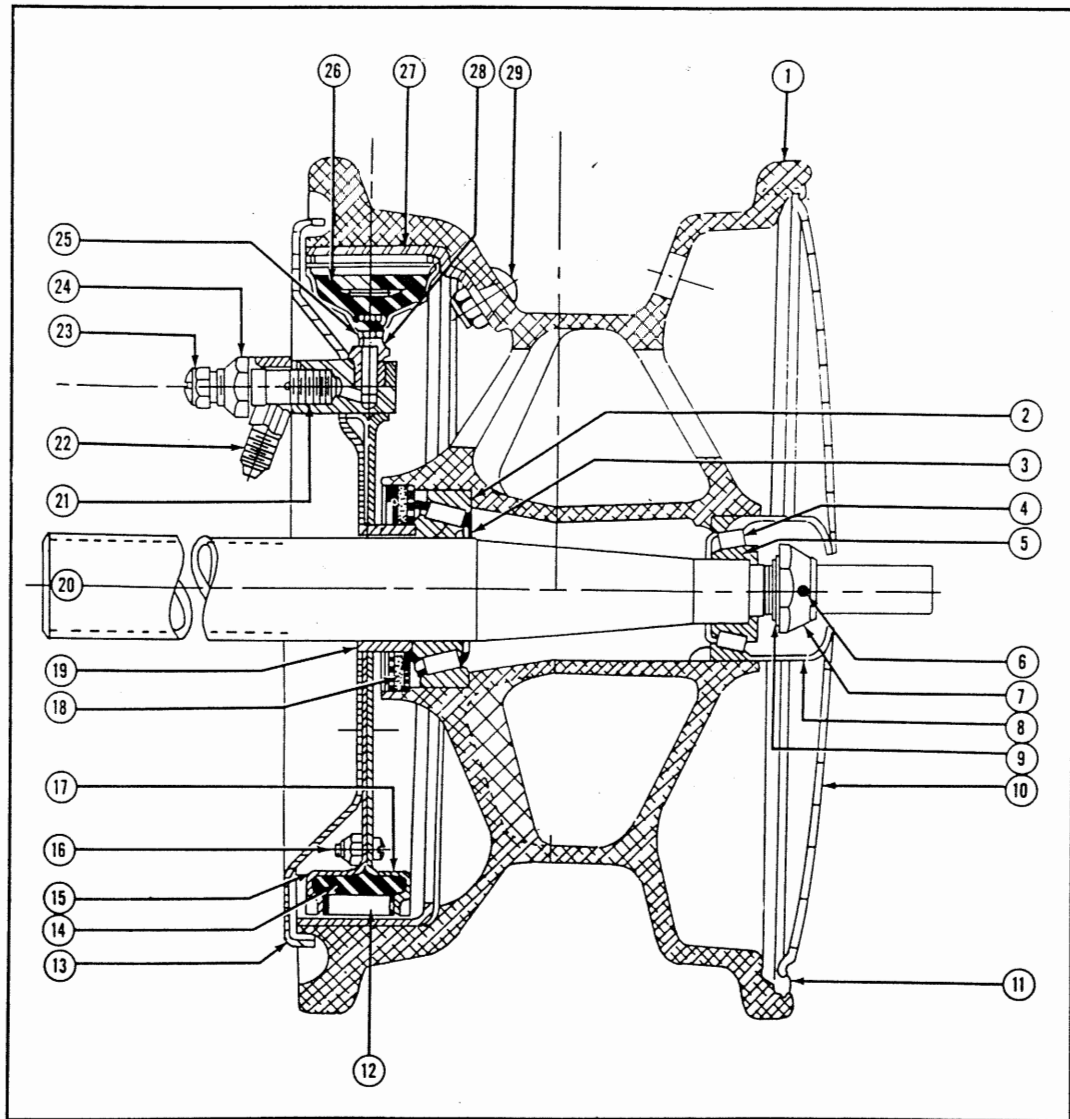

Figure 3-29—Expander Tube Brake and Wheel Assembly
With two of the blocks in place insert one of the retractor links in the slot as shown in detail B, pushing the spring in as far as possible. With a screw driver push the spring down to the left until the position shown in "C" is reached. The screw driver can then be removed and by pressing on the right end of the spring it will snap into position as shown in the bottom of the cross section of the brake. (See figure 3-29.) If brakes are equipped or are to be equipped with tube shields, one of these is placed on each space between the ends of the block at the time the blocks are assembled. In reconditioning these brakes if the lining is worn off 1/16" then the lining retractor springs and tubes shall be replaced. If leaks are noticeable in the expander tube it must be replaced by a new one. No repair can be attempted on the tube.
REASSEMBLY OF BRAKE WITH NEW EXPANDER TUBE. To reassemble the brake with a new expander tube (See figure 3-29), lay brake frames (15 and 17) with the outer flange down, insert the connector (21) with the rubber packing (28), the washer, and the nut, and tighten nut (25) slightly to hold the expander tube nozzle in position. The expander tube can then be stretched onto the frame by working both ways from the nozzle, pushing it on with the fingers or stretching it with a tool which must have rounded edges so as not to injure the tube. The expander tube can be pressed down on the frame and will stay in position. The frame can then be properly located and pressed down into the expander tube, after which the screws and the nuts (16) can be installed along with the two screws which